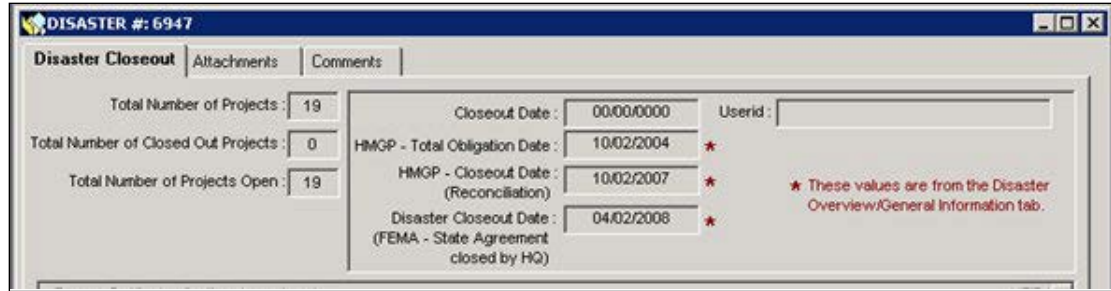

Figure 13-6: Mitigation >Disaster >Closeout >Disaster Closeout Tab - Program Information
5. Click the OK button. The **Disaster Closeout** tab is displayed. The top section displays read-only information about the program (Figure 13-6).